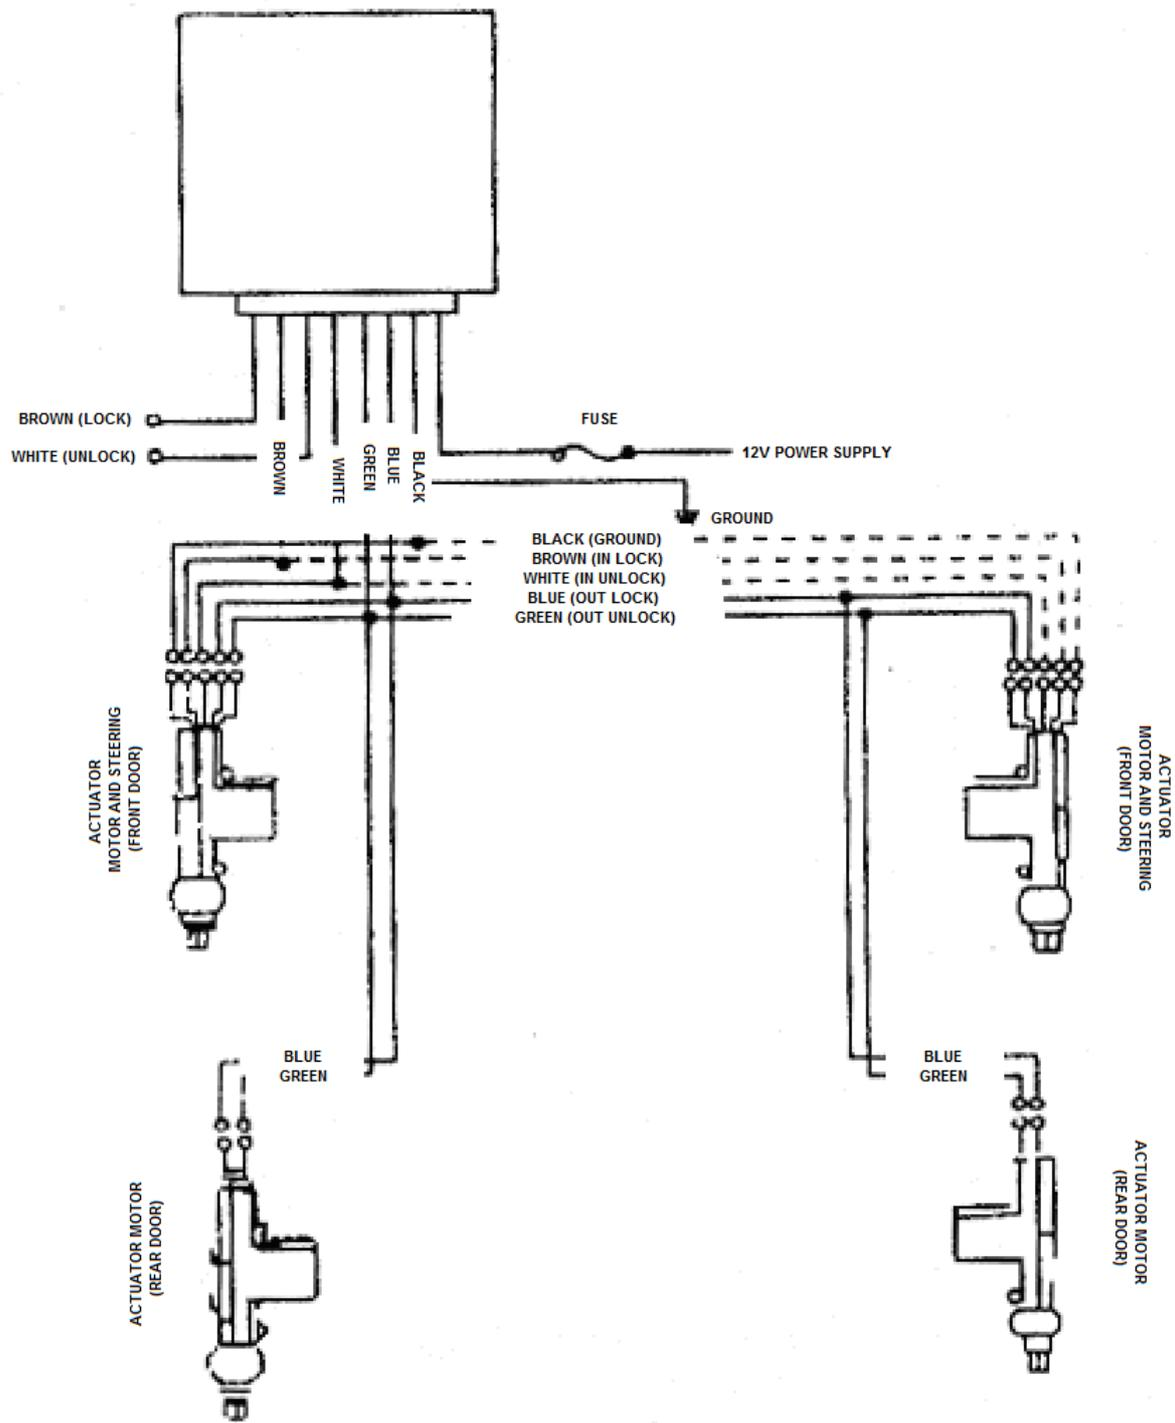

Figure 5. Wires connection
2. During connecting bunch of wires to front door actuators (5-wires) make sure they are connected correctly taking into account colors. See figure 5.
- a. Connecting white actuator wire to brown (1) wire in bunch (or blue wire to green wire) will automatically move actuator up and down.
- b. (1) White and black actuator wires (5-wires) are connected together when actuator is in up position.
1. ACTUATORS NOT WORKING	<ul style="list-style-type: none"> a. Check +12V and ground wires connection and fuse. b. Check wires connection to lock controller. c. Check lock controller operation. Connect white (1) and brown (1) wire from bunch to ground. It will cause reversing actuators positions. (After connecting white (1) and brown (1) wire to ground you should hear "click" from lock controller).
3. FRONT DOOR ACTUATORS NOT WORKING	<ul style="list-style-type: none"> a. Check actuator connection (figure 5) b. Check if actuators joints are secured correctly. c. Check if all mechanical parts are tightened. d. Check and adjust actuator stroke (1,2 and 4) e. Check actuator power supply +12V and connect actuators blue and green wire to ground, to check if it is not damaged. (disconnect actuator from bunch of wires before checking it)